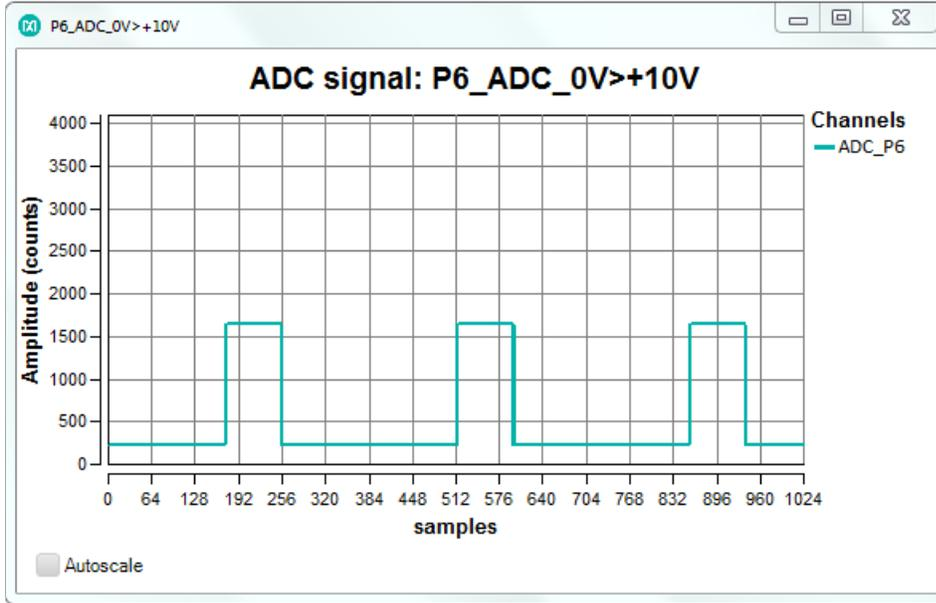
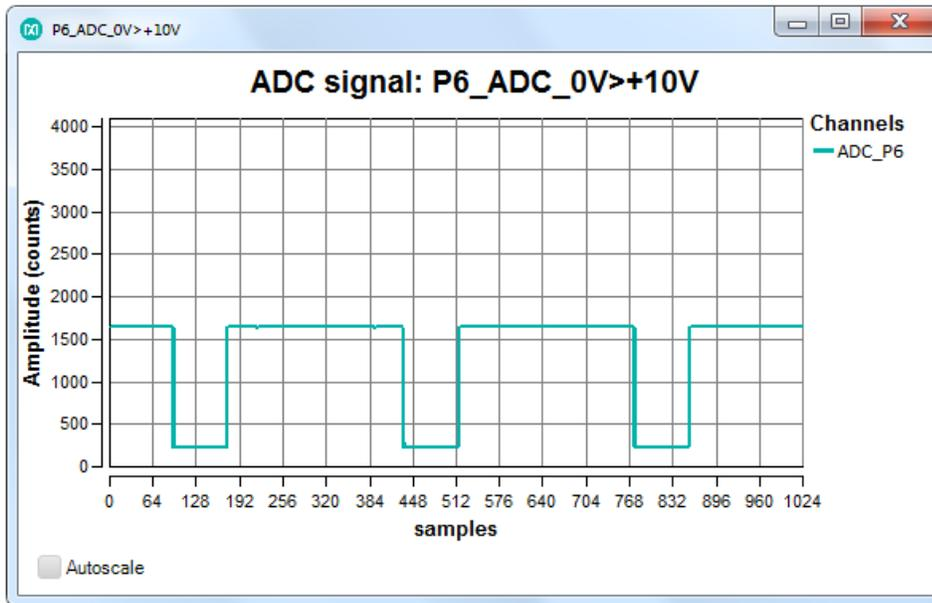

Figure 34. PWM Width as the potentiometer set to a low position.
Figure 35. PWM Width as the potentiometer set to a high position.
- In the drop-down menu on the top right, select P6\_ADC\_0V>+10V and click the Get plot box button. Another plot window opens for ADC on P6. Observe PWM signal in the ADC plot window. Adjust the pulse width by turning the potentiometer to the low and high positions and observe the width of the PWM waveform as shown in **Figure 34** and **Figure 35**.